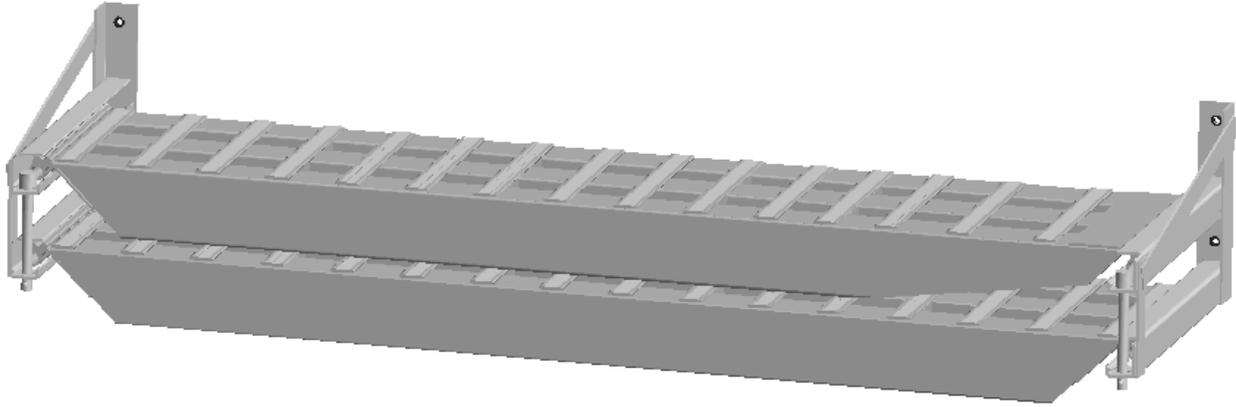

Figure 11 – Completed Ramp Storage Rack Assembly
13) Insert one Lock Rod through each of the two inline 1”-dia holes on both of the ramp storage rack sides, as depicted in Fig. 11 below: